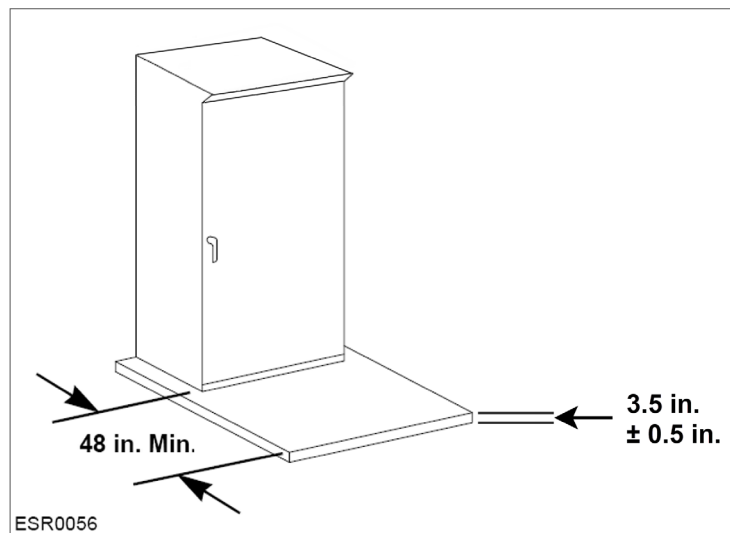

Figure 94: Concrete Pad in Front of Cabinet (Outdoor Metering)
- When installing outdoor switchboard metering, the customer must install a concrete pad with 48 inches of concrete in front of any cabinet that contains PGE equipment. Drainage must slope away from the cabinet. See **Figure 94** for details.